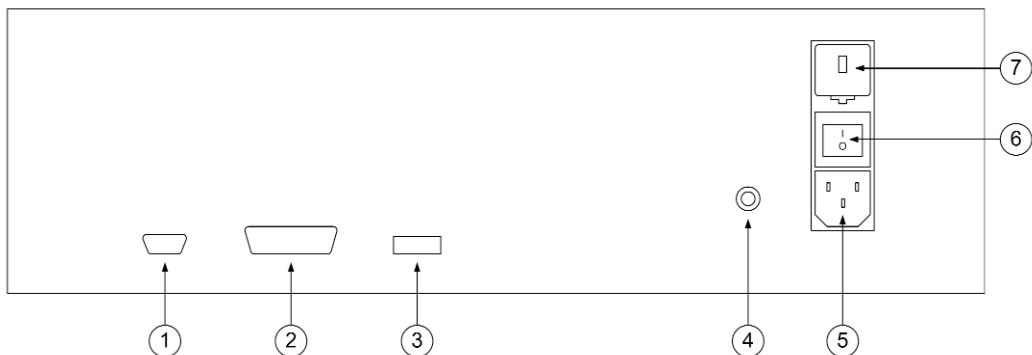

Figure 5 - Rear Panel
Figure 5 describes the rear panel layout.
- a) **Before** attaching the power cord to the rear connector, check that the line voltage selector is set appropriately for your location. The 3001 is shipped from the factory with the line voltage set for the country of purchase. To verify the line voltage setting, check the indicator on the power line voltage selector and fuse compartment cover; see figure 5 in section 2.5 for the location.
- b) Once the voltage selection has been made, making sure that the power switch is off, connect the AC power cord to the 3001; see figure 5 in section 2.5 for the location.